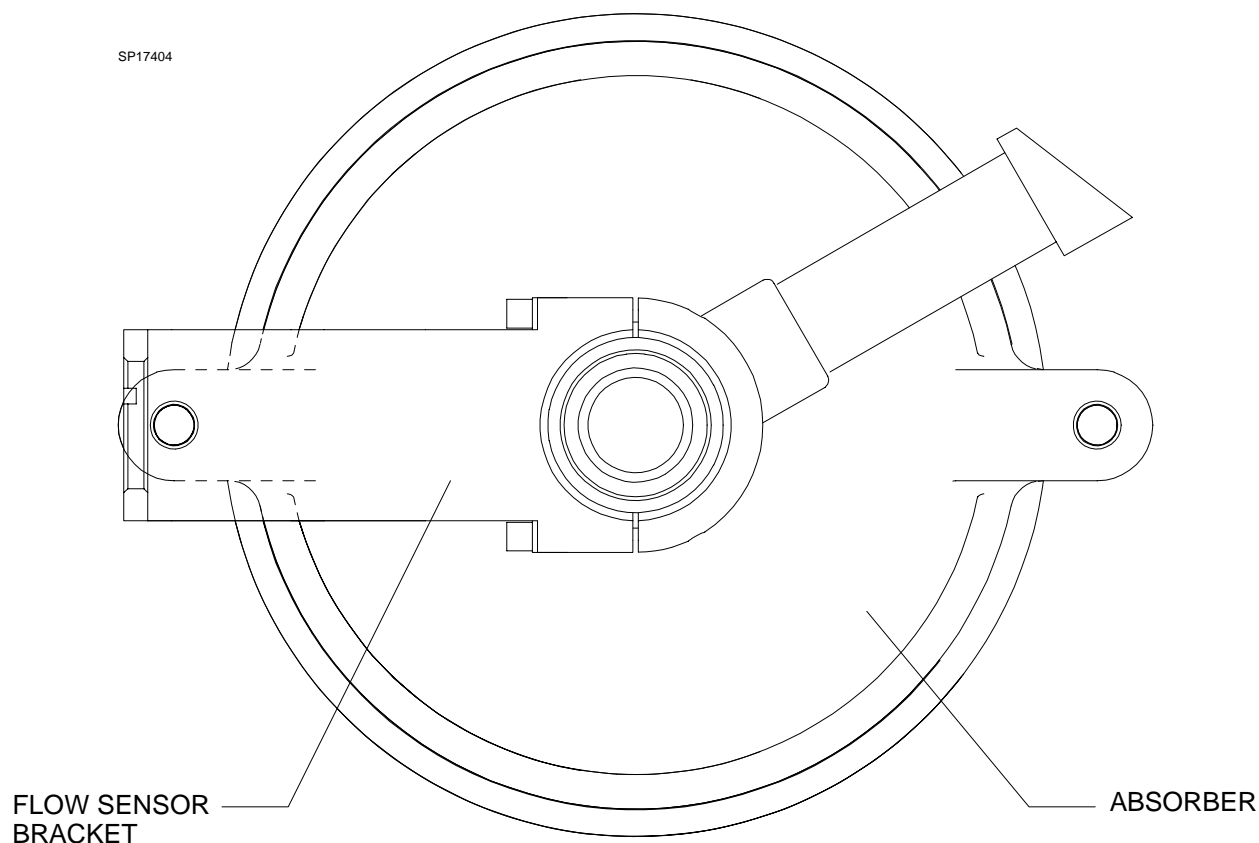

FIGURE 4. Flow Sensor Bracket Orientation: Top View
2. Install the new flow sensor bracket and clamp on the expiratory valve mount neck, below the threads as shown in Figures 4 and 5.
CAUTION: In order to avoid interference between the connector hose and the bellows assembly, the flow sensor bracket must be oriented as shown in Figure 4.